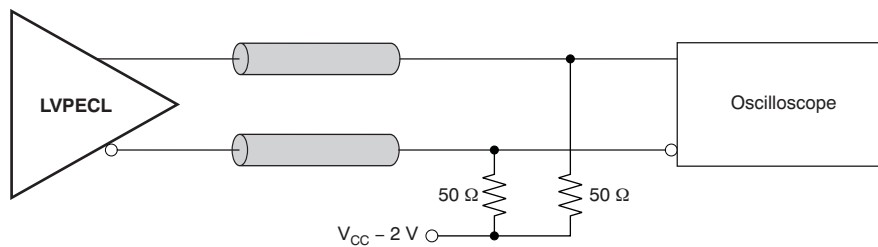

Figure 10. LVPECL Output DC Configuration During Device Test
(1) Figure 10 and Figure 11 show dc and ac test setup.
(2) Internally generated bias voltage (V_{AC_REF}) is for 3.3 V operation only. It is recommended to apply externally generated bias voltage for $V_{CC} < 3.0\text{ V}$.
(2) Parameter is specified by characterization. Not tested in production.
(3) Input source: 122.88 MHz Rohde & Schwarz SMA100A Signal Generator.
(4) Input source RMS Jitter (t_{RJIT_IN}) and Total RMS Jitter (t_{RJIT_OUT}) measured using Agilent E5052 Phase Noise Analyzer. Buffer device random additive jitter computed as: $t_{RJIT} = \text{SQRT}[(t_{RJIT_OUT})^2 - (t_{RJIT_IN})^2]$.
(5) Input source: 156.25 MHz Rohde & Schwarz SMA100A Signal Generator.
(6) Input source: 312.5 MHz Rohde & Schwarz SMA100A Signal Generator.